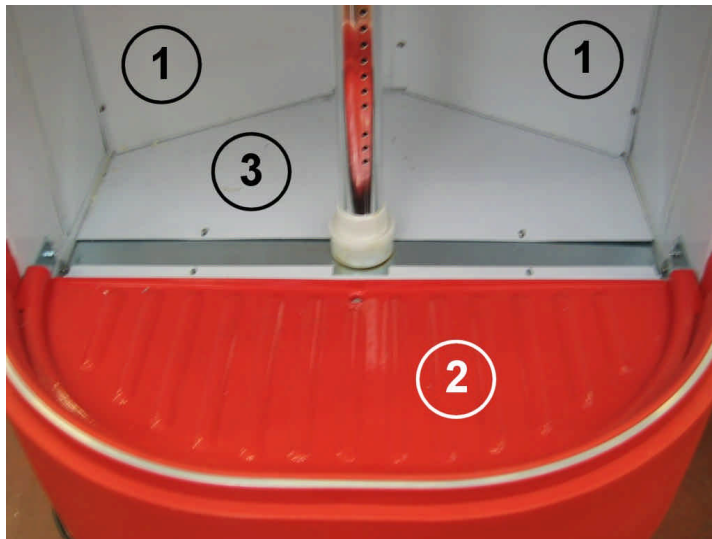
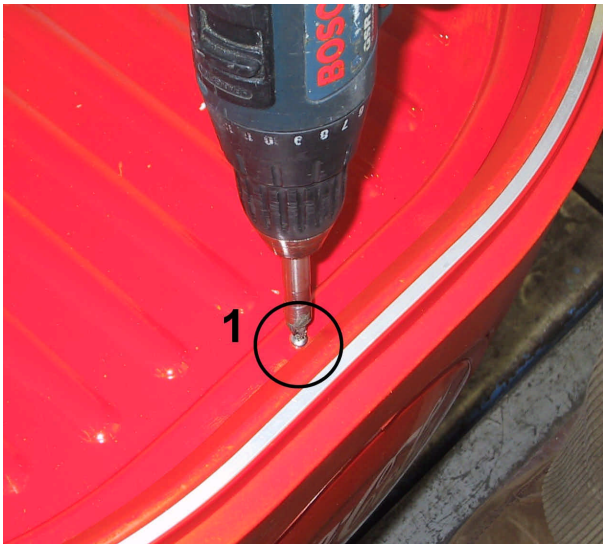

Figure 10
Figure 15
The inner tank has a top and bottom front enclosure made of roto-moulded PET; the side, back top and bottom enclosures are made by galvanized and plasticized steel sheet. Two rear panels (marked with "1" in Fig. 10) provide correct air circulation and distribution; behind the left one the temperature probe (I) (85) is located.
The evaporator (28), the defrosting heater (REV) (102), the evaporator probe (H) (84) and the defrosting thermostat (KFS) (104) are located in the bottom tank end are enclosed by the metal cover marked with "3" in fig. 10 and by the motor fans support plate marked with "2" in fig. 11. The evaporator motor fans (MI) (47) and relative protection grills (36) are mounted on it. The red plastic cover (57), marked with "2" in fig. 10, has function to protect the evaporator motor fans from spillages and condensate.
To disassemble the evaporator motor fans support (marked with “2” in fig. 11), remove the red plastic cover (57) (marked with “2” in fig. 10) by unscrewing the screw marked with “1” in Fig. 15. Then remove the motor fans support plate by unscrewing the screws marked with “1” in
To remove the tank back panels, marked with “1” in Fig. 10, firstly remove the shelves support shaft (61) as described in the previous section 2.3.1.5.